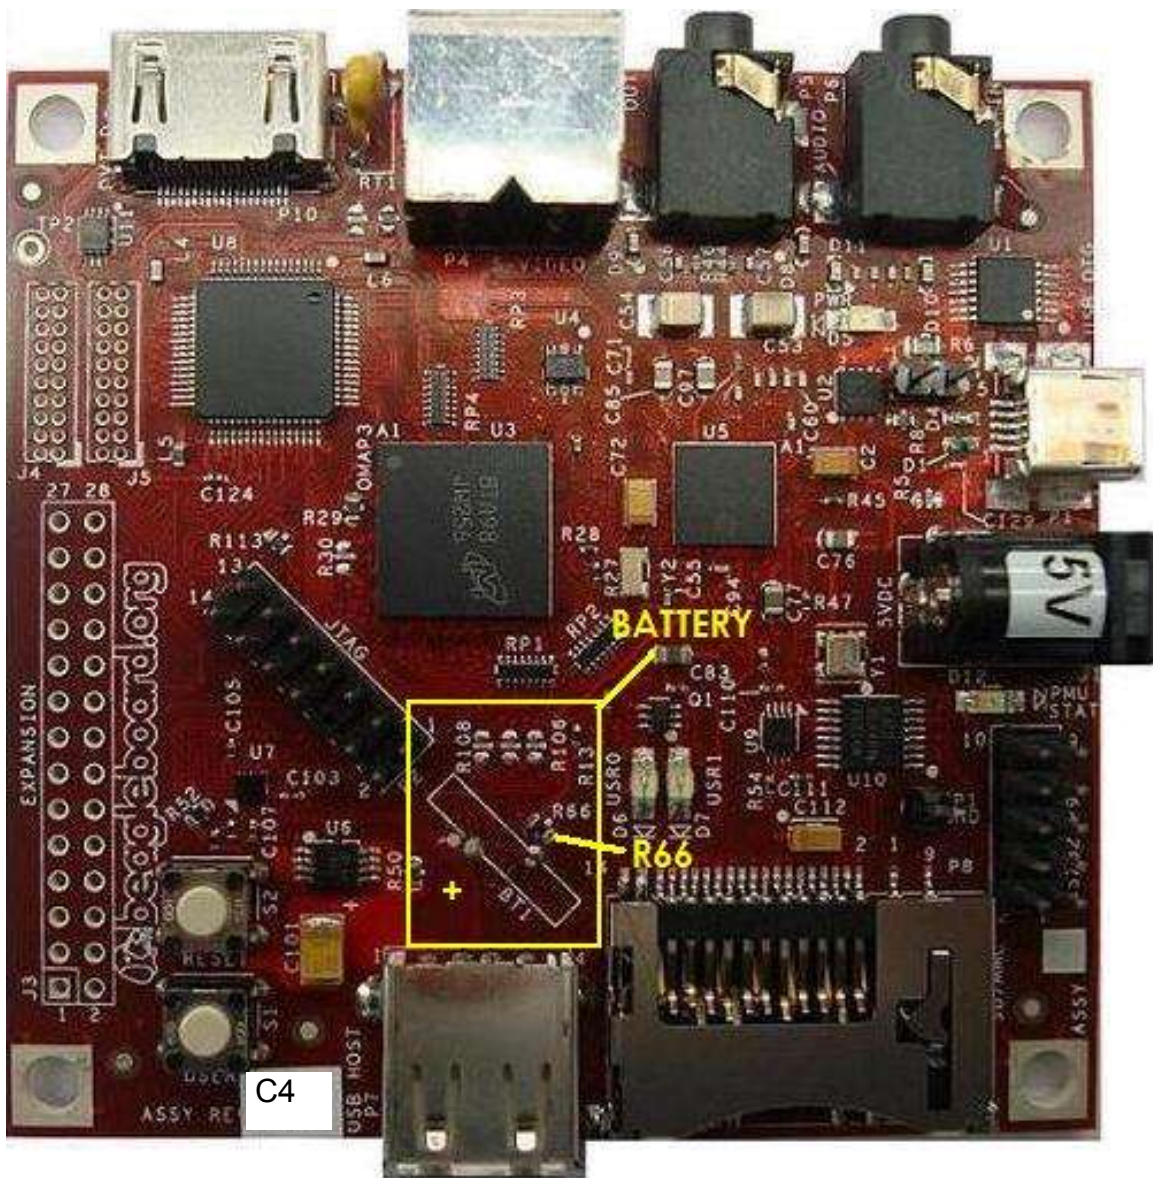

Figure 67. Optional Battery Location
Figure 67 shows the location of the battery on the Beagle Board.
- 2) Remove R66 from the board as shown on **Figure 67**.
- 4) Insert the (+) lead into the hole that is marked (+) on **Figure 67**.